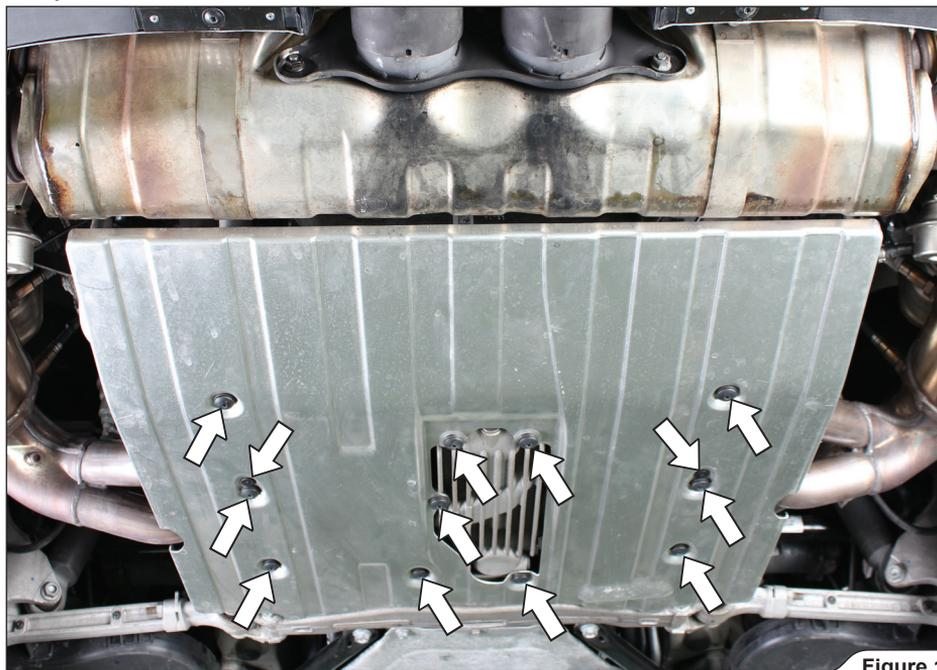

Figure 1
1. Unscrew the marked bolts, remove marked plastic pins and remove rear underbody panel (**Figure 1**).